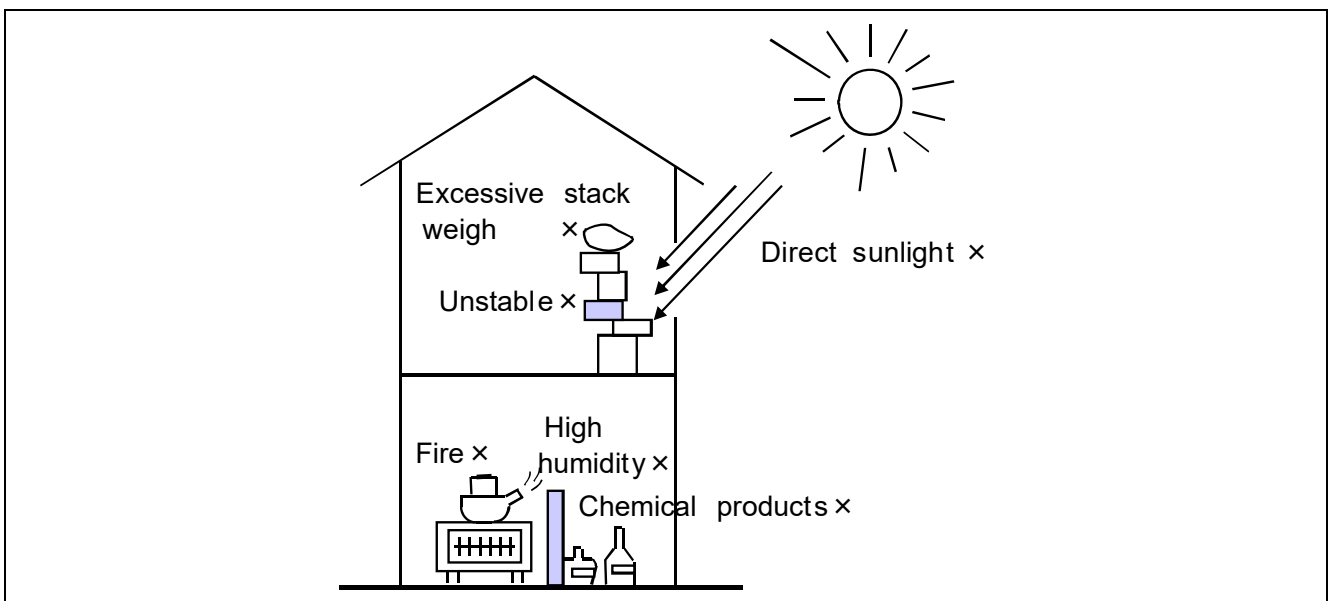

Figure 14 Bad Storage Locations
(2) Storage form
- (a) Care is required so that weight is not applied to semiconductor devices in storage. Especially, in the stacked state, excessive weight is applied to the semiconductor device. Avoid placing heavy objects on semiconductor devices. (see figure 14)